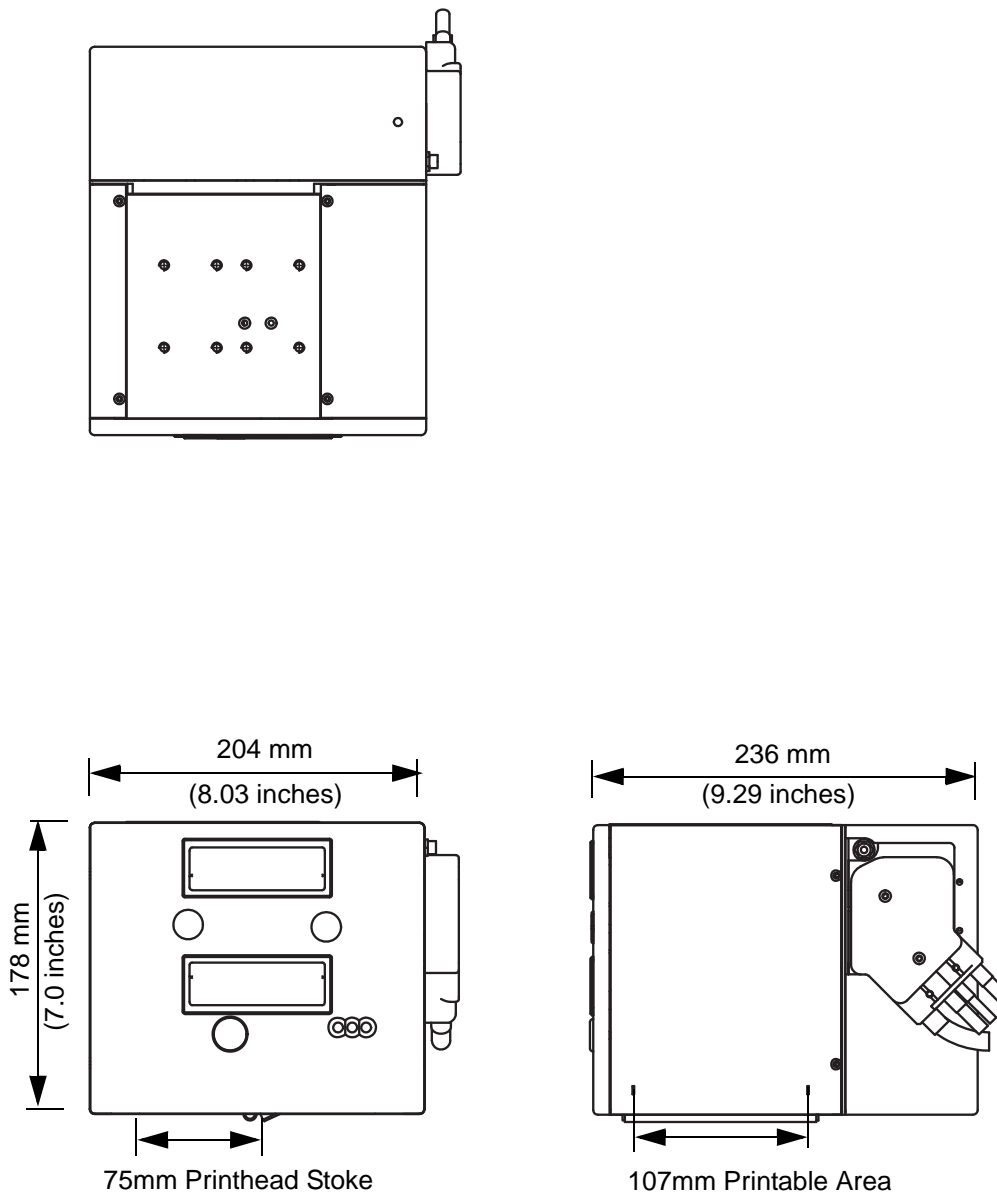

Figure 7-3: DataFlex Plus 107mm RH Printer Dimensions
Figure 7-3 shows the dimensions of the DataFlex Plus 107 mm (RH) printer.